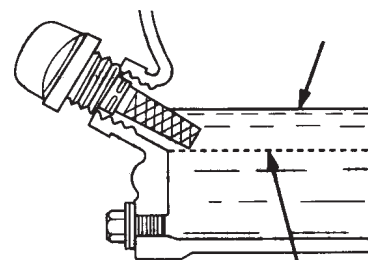

Figure 4. Engine Oil Dipstick (Oil Level)
4. If the oil level is low (Figure 4), fill to the edge of the oil filler hole with the recommended oil type.